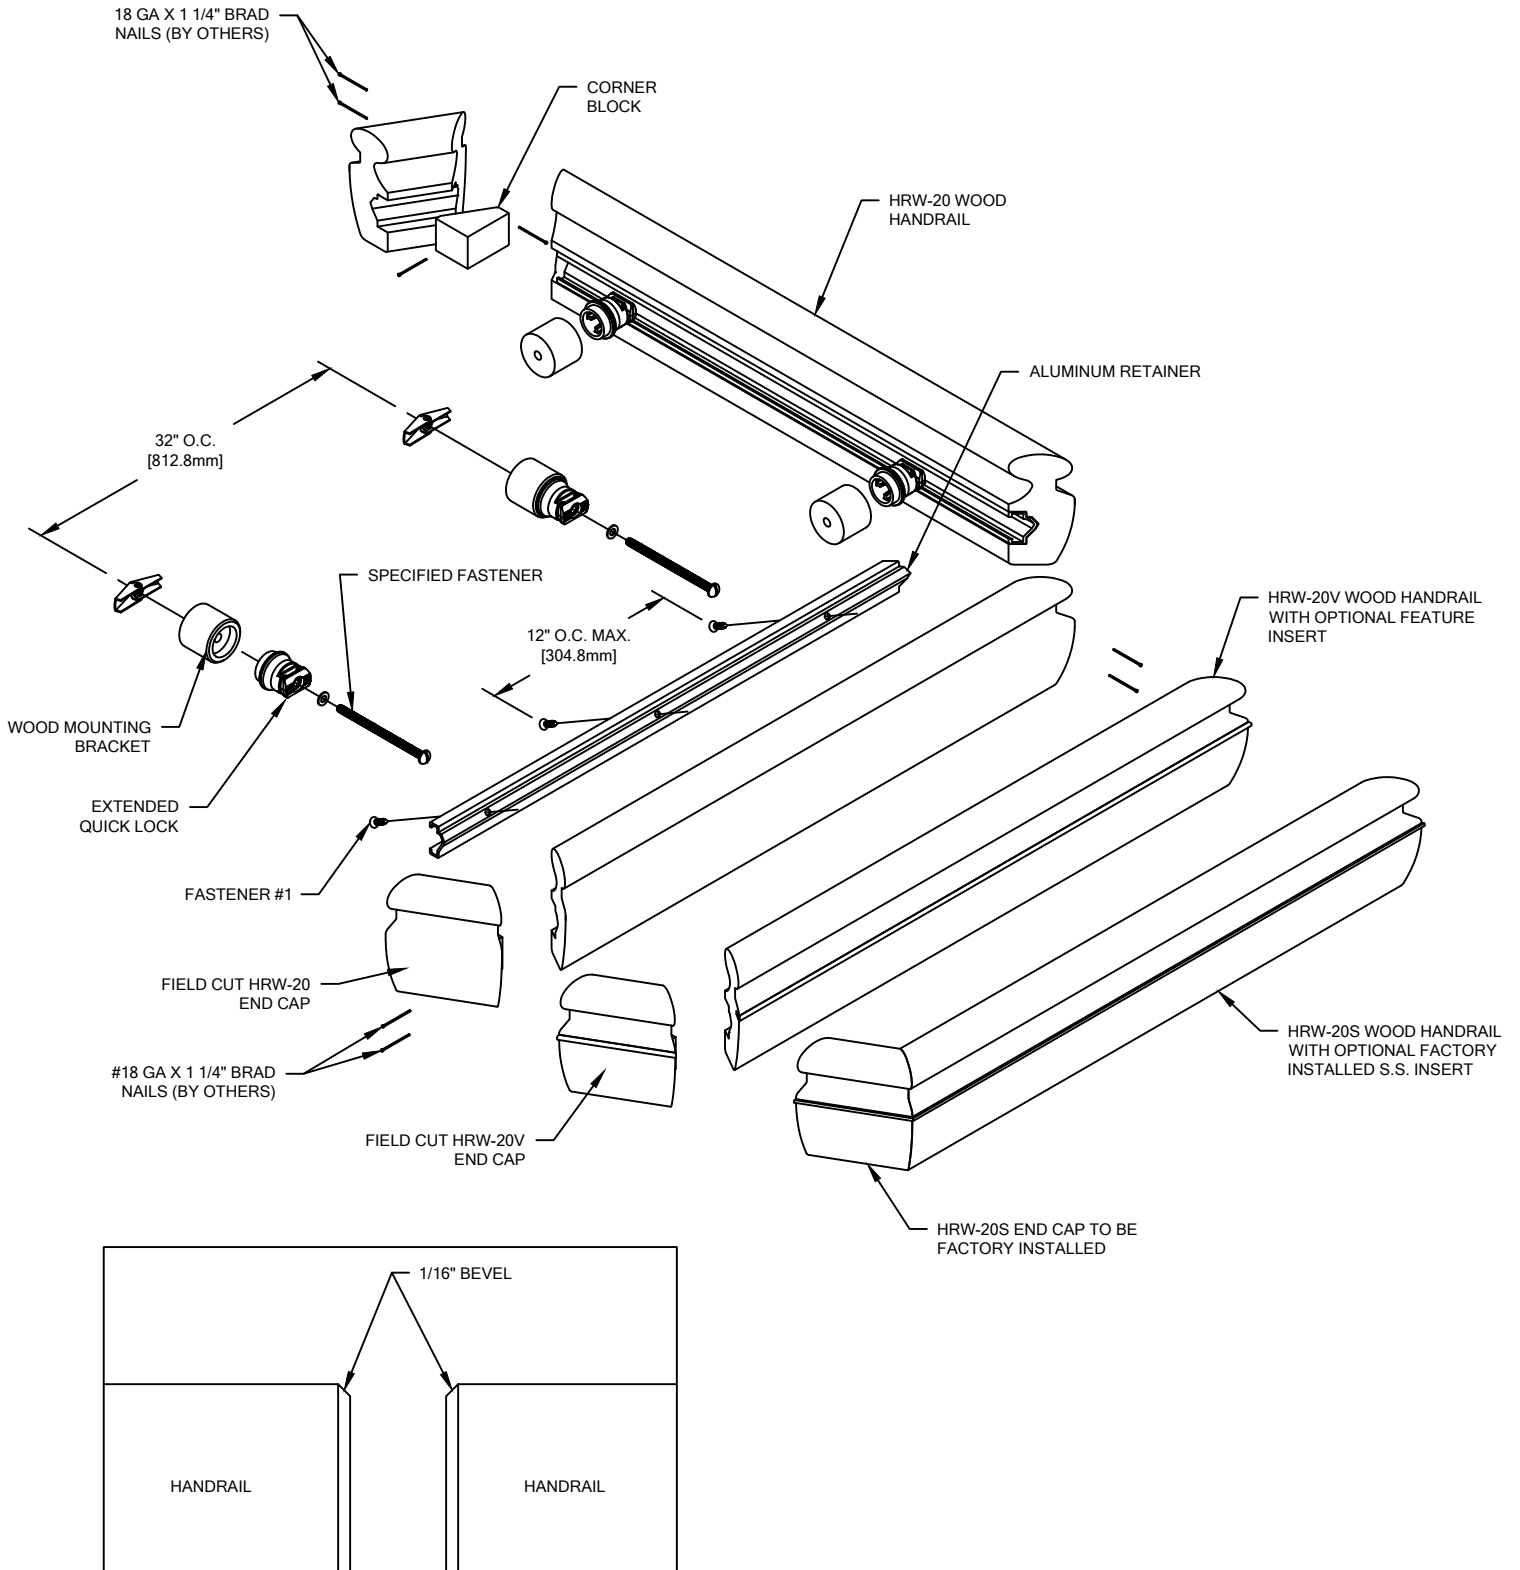

FIGURE 1.
1. DUE TO WOOD BEING A NATURAL PRODUCT, COMPONENTS MAY GROW AND SHRINK AT DIFFERENT RATES. BECAUSE OF THIS, CS HAS DESIGNED THIS HANDRAIL TO UTILIZE A BEVEL AS SHOWN IN THESE INSTRUCTIONS (SEE FIGURE 1). THIS BEVEL MUST BE APPLIED AT ALL WOOD HANDRAIL SPLICE JOINTS.